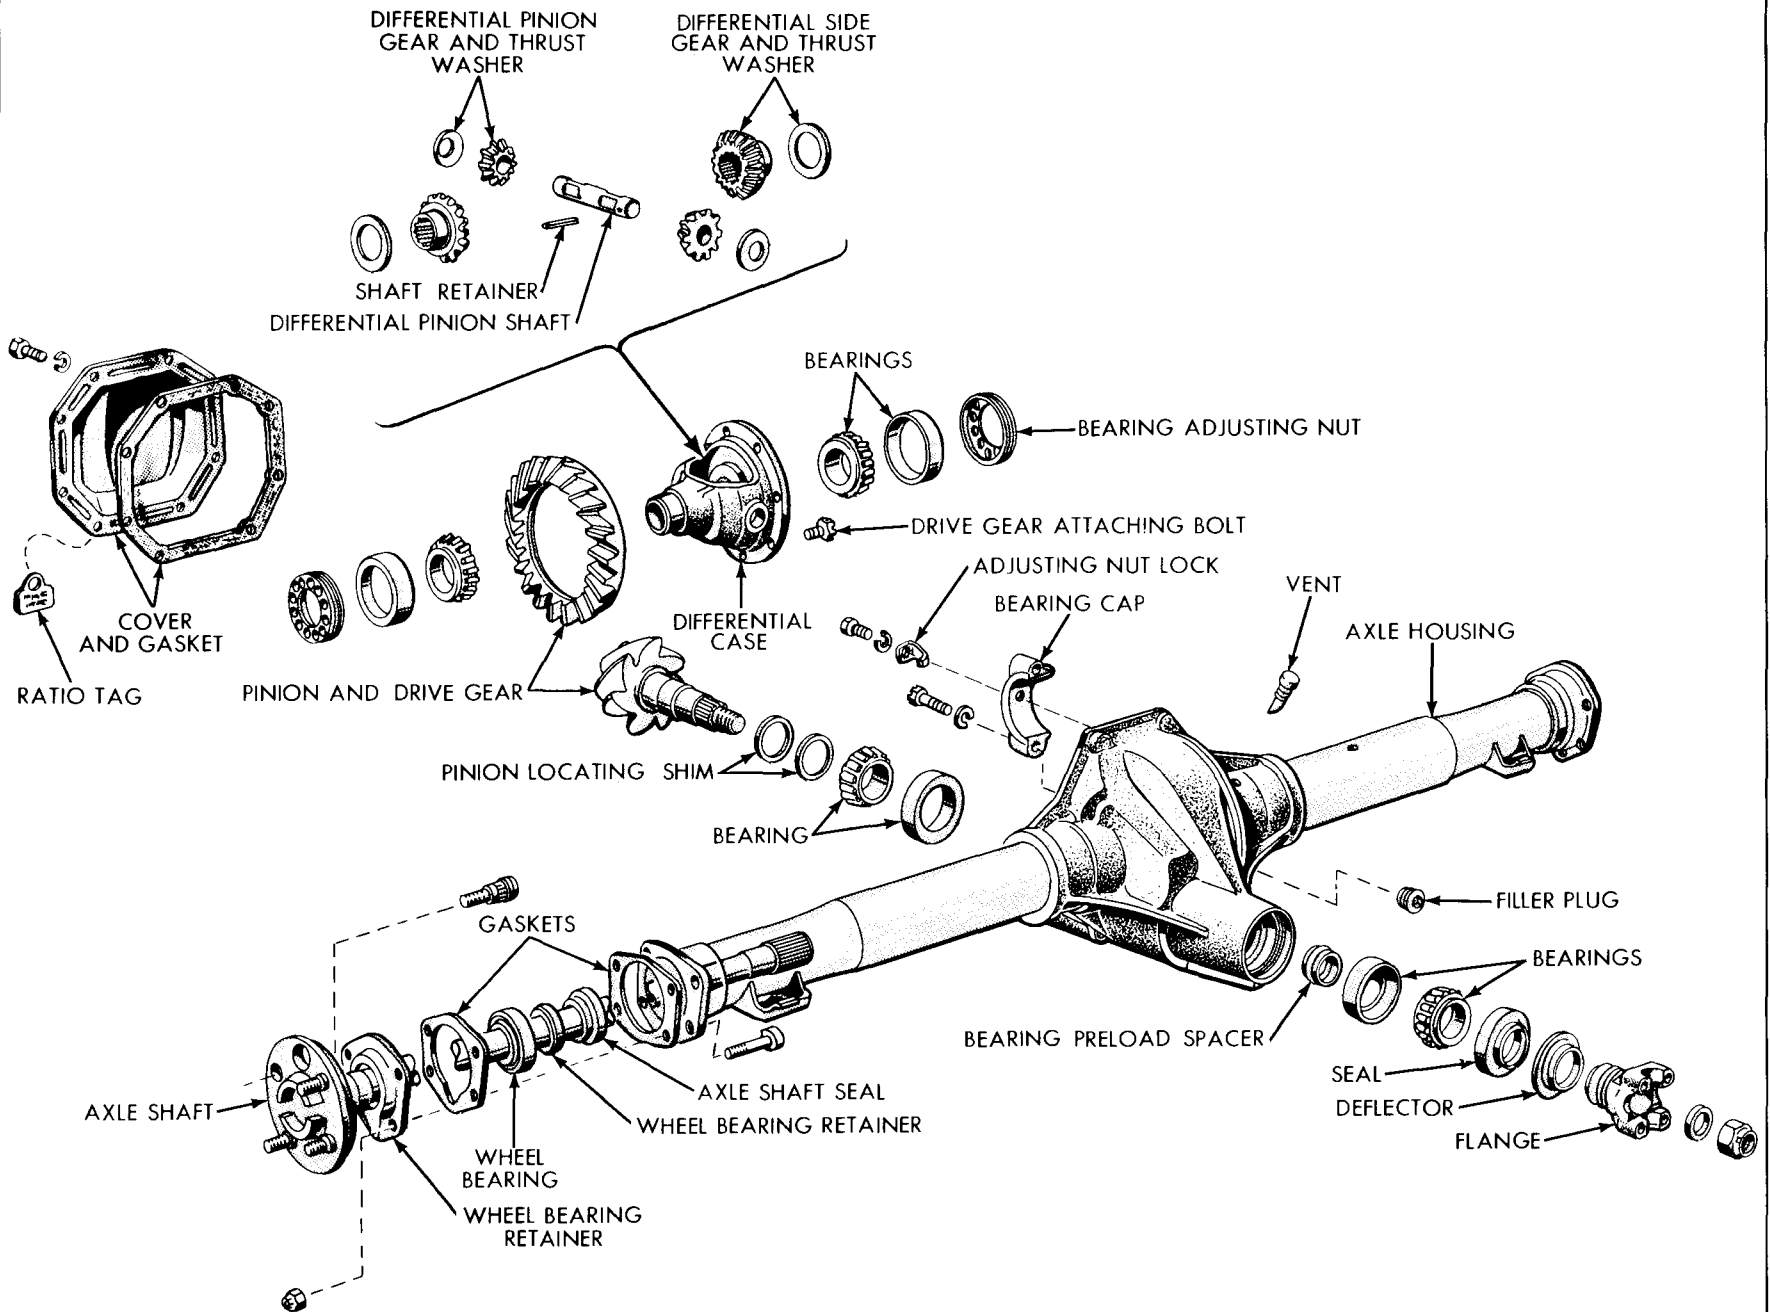

Fig. 4-17—Disassembled Rear Axle—(60C-5202)
1. Figure 4-17 is presented for reference during disassembly and assembly procedures. Remove the differential bearing adjusting nut locks.
8. Drive out the differential pinion shaft with a drift. Remove the gears and thrust washers. See figure 4-17.
Pinion bore dimension tolerances and the operating positions of the gears require the use of an adjusting shim between the pinion rear bearing cone and the pinion gear. Refer to figure 4-17. When the shim thickness is decreased, the pinion gear is moved away from the drive gear. When the shim thickness is increased, the pinion